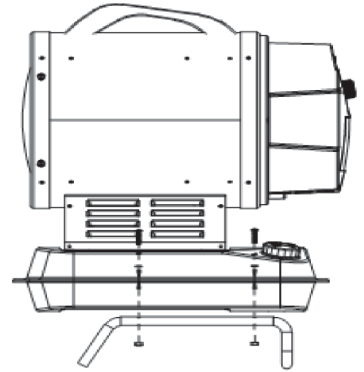

Fig. 2
1. Line up the holes on the stand with the holes on the fuel tank of the heater as shown in (**see Fig.2**).